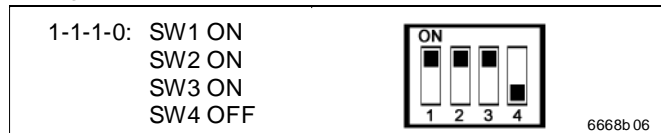

Fig. 9 DIP switch – configuration mode
As soon as you press the “UP“ key (pos. a, Fig. 9) outside of the configuration mode, the actual rest of the expired pause time (Fig. D) or lubricating time (Fig. E) is shown in the display.
- Set the DIP switches 12 (see view Fig. 2) as shown in Fig. 9: